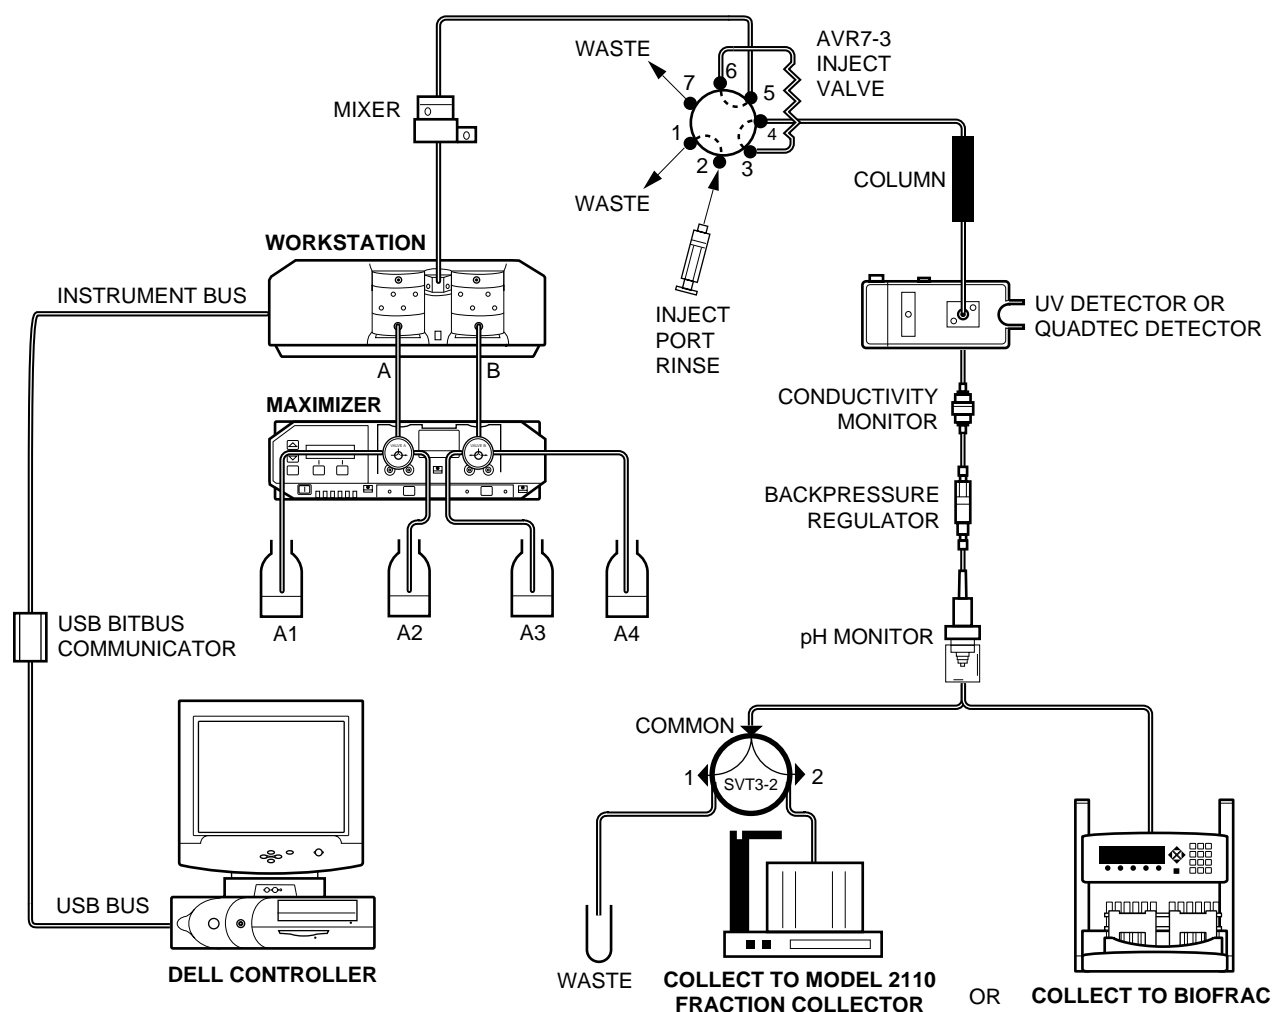

Figure 4-3. System Plumbing with Maximizer
3. Plumbing from the Workstation pumpheads to the Transducer (Figure 4-3).
- b. Connect a piece of 1/16" OD Tefzel tubing from port 1 of the SVT3-2 valve (see Figure 4-3) for use as a waste line.
- c. Connect a piece of 1/16" OD Tefzel tubing from port 2 of the SVT3-2 valve (see Figure 4-3) to the Model 2110 fraction collector drop-head. This tubing sits inside the drop-head, and no fittings are required.